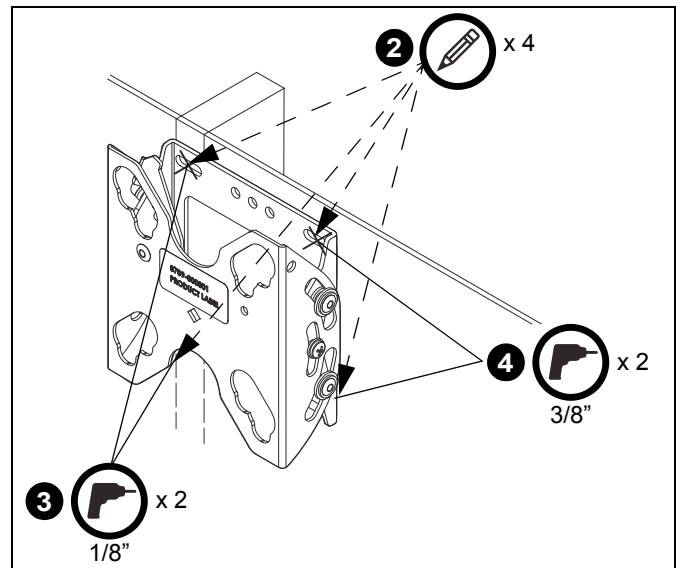

Figure 2
2. Level FTR assembly (A) at desired height and, using it as a template, mark the location of the four anchor holes (one in each corner slot). Two holes must be centered on a single wood stud.
3. Drill 1/8" pilot holes in wood stud locations. Ensure pilot holes are straight. (See Figure 2)
4. Drill 3/8" anchor holes in the other two marked locations. Ensure holes are straight and completely through drywall. (See Figure 2)